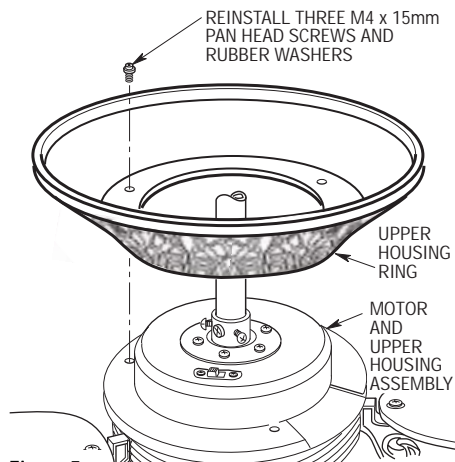

Figure 5
- 8. Place the upper housing ring on the motor and upper housing assembly. Line up the three holes in the upper housing ring with the three threaded holes in the motor and upper housing assembly (Figure 5). Reinstall a M4 x 15mm pan head screw and rubber washer in each of the holes (Screws and rubber washers were removed in Step 7).